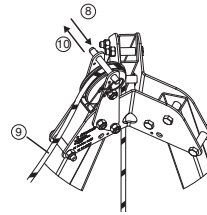

Fig. 10
8. Remove the ball pin located above the idler pulley at the top of the TRACPODE™ tripod (Fig.10, 8).
9. Run the rope of the DEROPE™ descender around the idler pulley (Fig.10, 9).
10. Fit the ball pin to prevent the rope from coming out of the idler pulley (Fig. 10, 10).